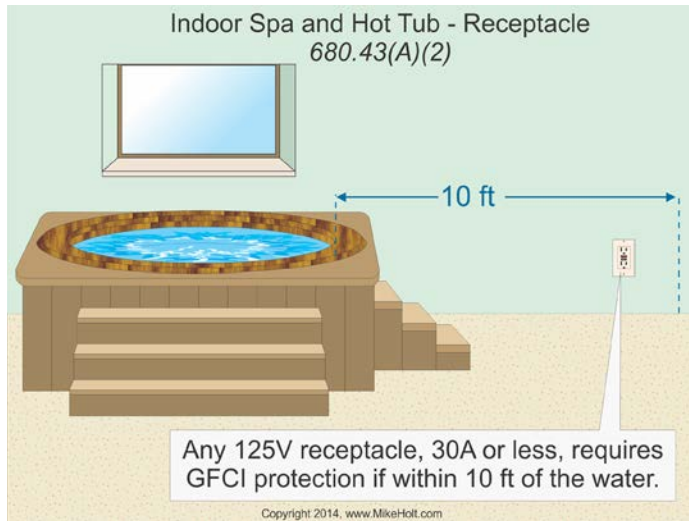

Figure 680–56
(1) Location. Other receptacles must be located not less than 6 ft, measured horizontally, from the inside walls of the indoor spa or hot tub.
(2) GFCI-Protected Receptacles. Receptacles rated 30A or less at 125V, located within 10 ft of the inside walls of an indoor spa or hot tub, must be GFCI protected. *Figure 680–56*